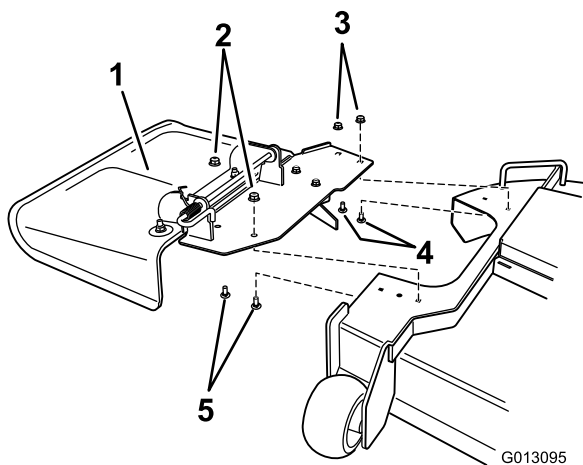

Figure 1
1. Remove fasteners securing the deflector assembly to the deck (Figure 1). Retain all fasteners.